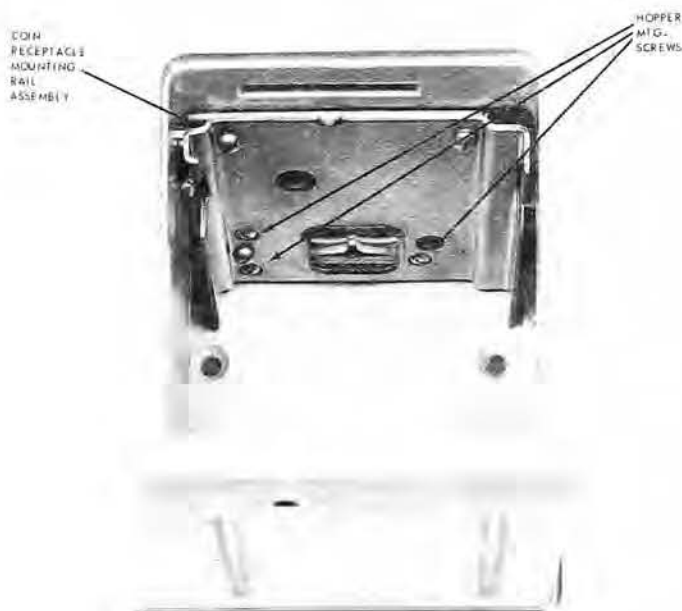

Figure 2. Location of Hopper Mounting Screws.
- (6) Using a stub-handled screw driver inserted into the cash compartment, remove the three 8-36 x 1/4" round-head screws, accessible through holes in the receptacle mounting rail assembly (see Figure 2), which fasten the coin hopper to the mechanism base. Lift the hopper from the base and replace the screws in the hopper for storage before returning the hopper assembly to stock.
- (2) If the relay and hopper assembly was purchased by itself, three 8-32 x 1/4" round-head screws will be required for mounting. Using a short (less than four-inch) screw holder or retaining-type screw driver inserted into the cash compartment, mount the P10E755 hopper to the mechanism base of the A.E. Co. coin telephone set with these three screws, inserted through clearance holes in the receptacle mounting rail assembly (see Figure 2). Start all three screws before tightening any of them. Since the hopper supports the weight of the coin relay, it must be securely fastened to the mechanism base.
- (3) Remove the P10E783 cover from the top of the coin relay, and thread the three leads which provide the coin relay connections through the oval hole provided for that purpose on an ear cast onto the right side of the hopper.
- (4) Push the bottom of the terminal block assembly as far to the left as it will go (it interferes slightly with the coin hopper) and tighten its upper mounting screw securely.
- (5) Connect a short length of red wire between terminals 1 and 3 of the coin relay mechanism.
- (6) On LPB82-55 and LPA92-55 models, connect the white lead to relay terminal G, the green lead to terminal 2, and the red lead to terminal 3 in addition to the strap placed in (5), above. Dress the leads back toward the hopper in downward loops, away from moving parts of the relay assembly.
- (7) If test facilities are available, conduct tests as set forth in the section in the 476-202 series entitled "N.E. Co. Single-Coil Coin Relay — Maintenance".
- (8) Snap the styrene cover in place on top of the relay assembly.
- (9) Replace the upper housing and lock it.
- (10) If 2A coin receptacles are used, insert one into the cash compartment, replace the door, and lock it.